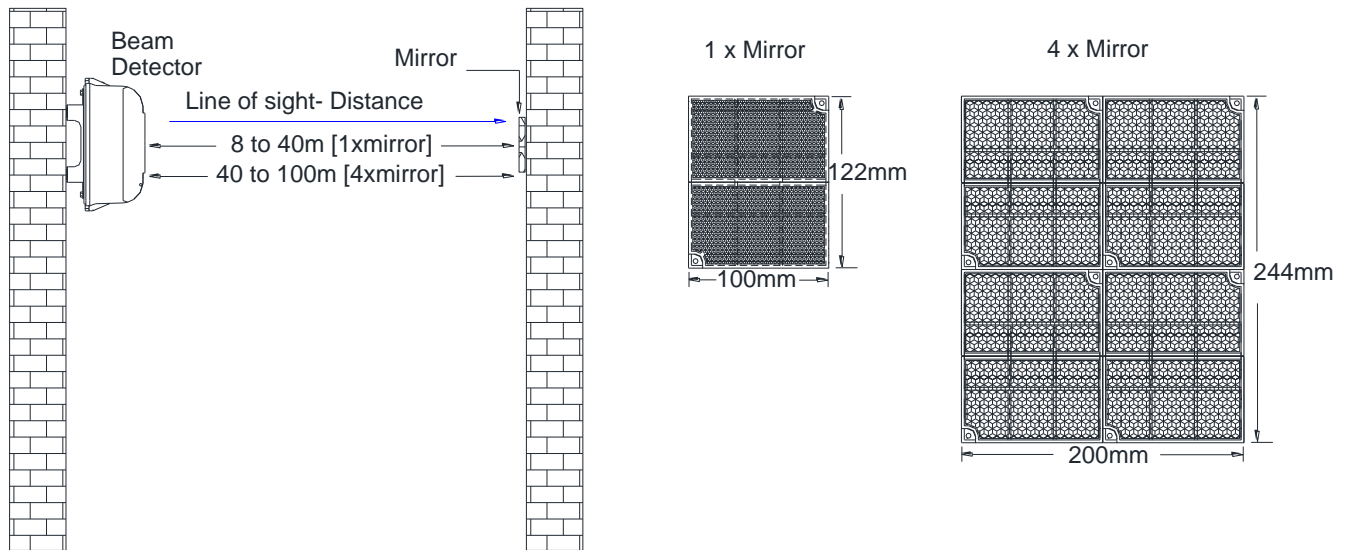

Figure 6: Mounting of Reflector Mirror
1. Depending on the project requirement, if the distance between the detector and the reflector mirror is 8m-40m, install one reflector is enough; if the distance is 40m-100m, four reflectors is required. Refer to Figure 6.
3. Fix the reflector mirror using two ST4x30 screw, in the case of one unit mirror, do the same step for other mirror if required. Refer to Figure 6.